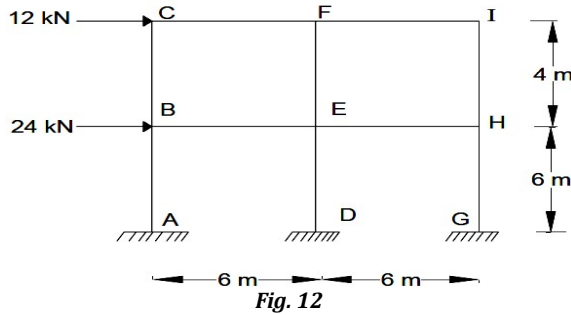

Fig. 12
8. For the multi storey frame shown below in the fig. 12, determine all the column-end and beam-end moments due to lateral loads as shown. Analyse the frame using Cantilever method.